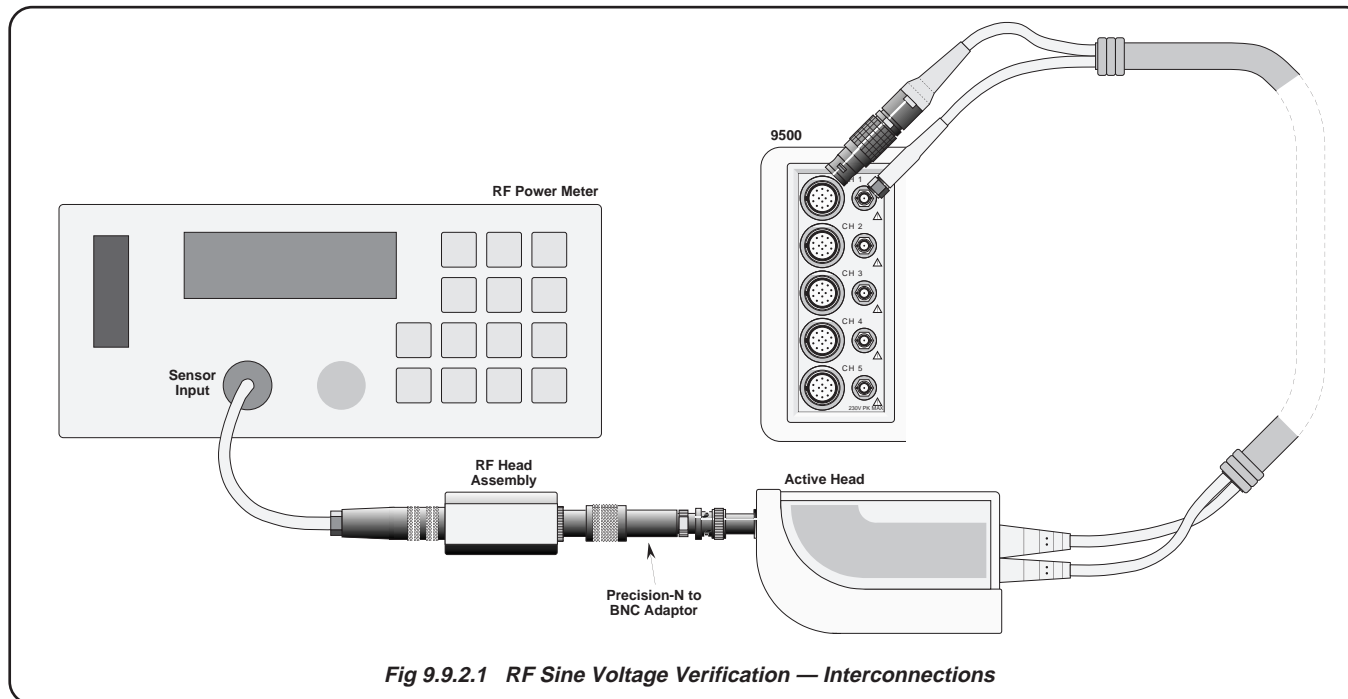

Fig 9.9.2.1 RF Sine Voltage Verification — Interconnections
- 1. Connections** Ensure that the 9500B is connected to the RF Power Meter as shown in *Fig. 9.9.2.1*, and that both instruments are powered on and warmed up.